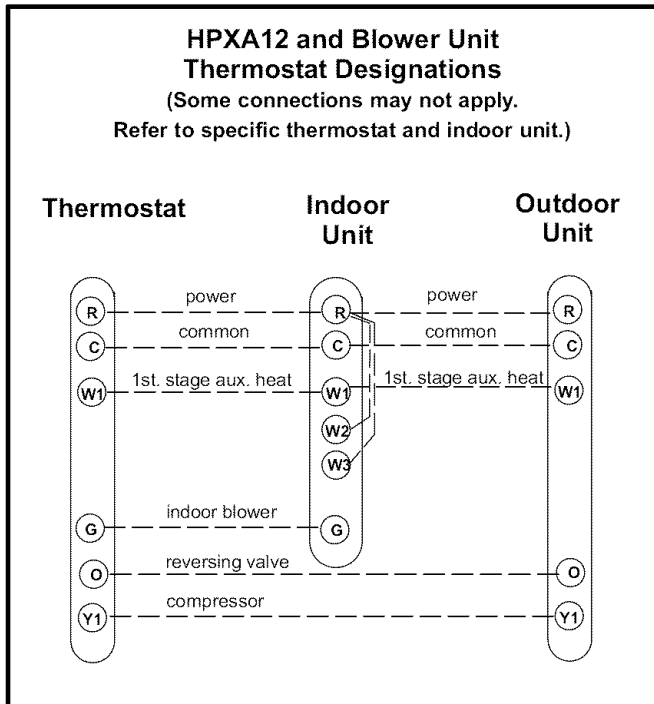

Figure 5
- 4 - Install low voltage wiring from outdoor to indoor unit and from thermostat to indoor unit. See figures 5 and 6. *NOTE - 24V, Class II circuit connections are made in the low voltage junction box.*